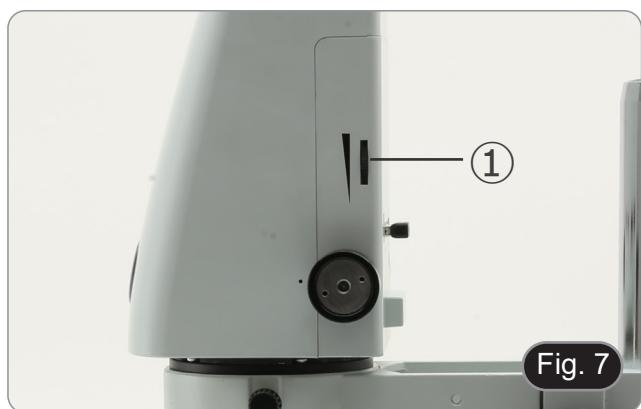

Fig. 7
1. Rotate the light adjustment ring ① on the right side of the microscope body. (Fig. 7)